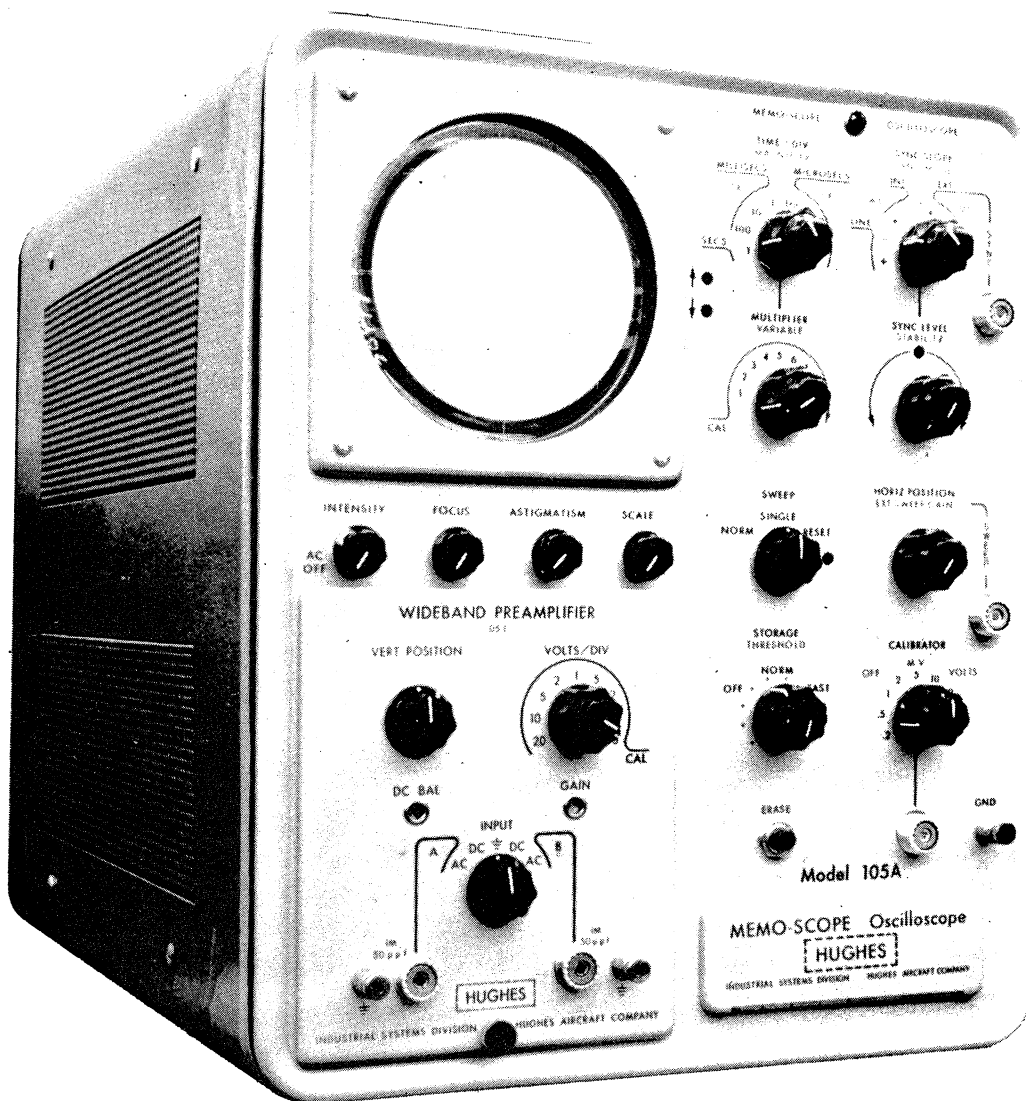

FIGURE 1 MEMO-SCOPE OSCILLOSCOPE, MODEL 105A
- Figure 1. MEMO-SCOPE Oscilloscope, Model 105A